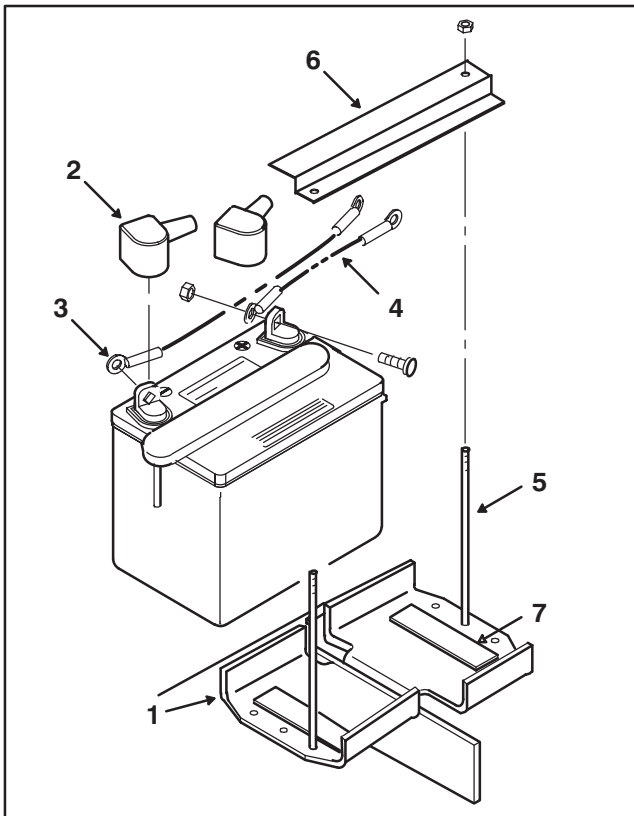

Figure 6
7. Mount battery to holders with (2) support rods, battery clamp and (2) locknuts. Position support rods in mounting holes as shown in fig. 6. Tighten locknuts so battery is held securely in position and will not slide. **DO NOT OVERTIGHTEN.**